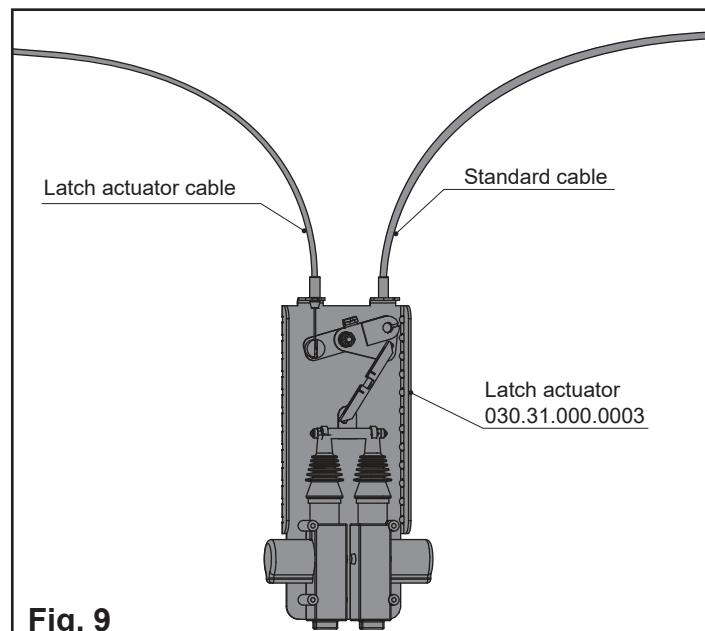

Fig. 9
3. Connect the standard cable to the latch actuator (Fig. 9).